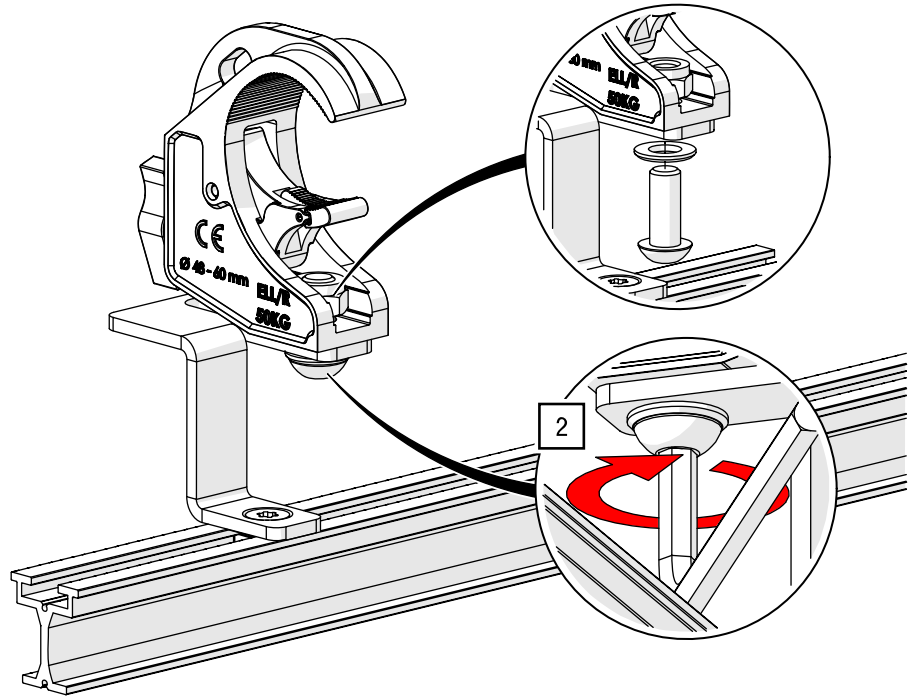

Fig. 64: Assemble cord operation – Assembly with slot nut
2. Fasten the G-CLAMP to the suspension for cord operation using an 8 mm Allen key and 93 Nm (see Fig. 64).